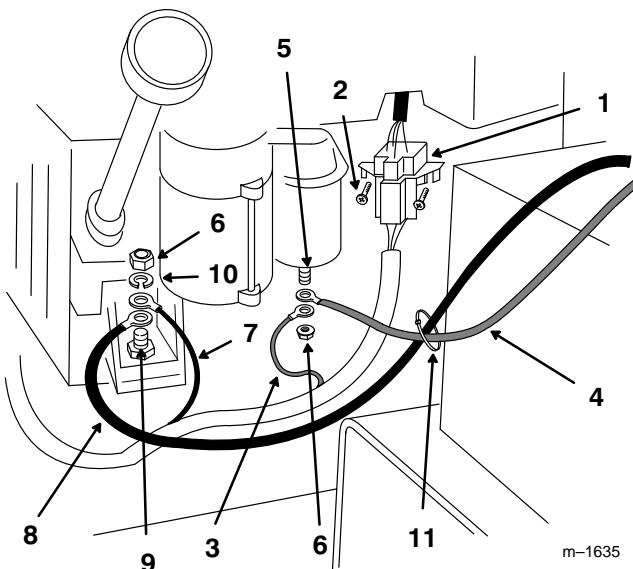

Figure 8
- Route wire harness around right side of engine. Plug surface-mount plug into engine plug, in front of starter. Secure wire harness plug to engine with screws. (Fig. 8).
- Attach red wire ring terminal and positive, red battery cable to lower terminal of starter solenoid. Secure with flange nut (Fig. 8).
- Attach black wire ring terminal and negative, black battery cable to right rear engine mounting bolt with lock washer and second nut (Fig. 8).